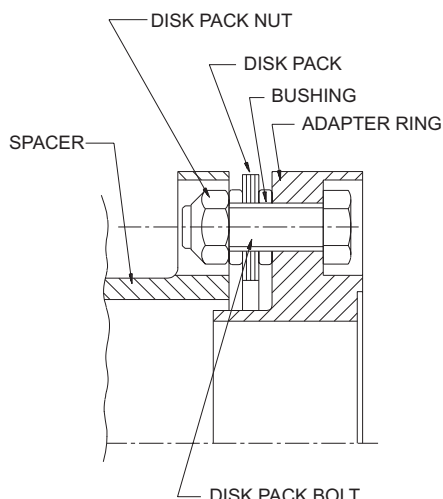

Figure 7. Bolt Disc Pack to Adapter Ring.
- 6.4 Line up the bushings of the new disc pack with the reamed holes in the ring, lightly tap on the bushings to start them into the holes. Insert 3 disc pack bolts and nuts with the bolt heads in the ring counterbore hole, tighten them evenly to pull the bushing into the ring flange (see Figure 7).